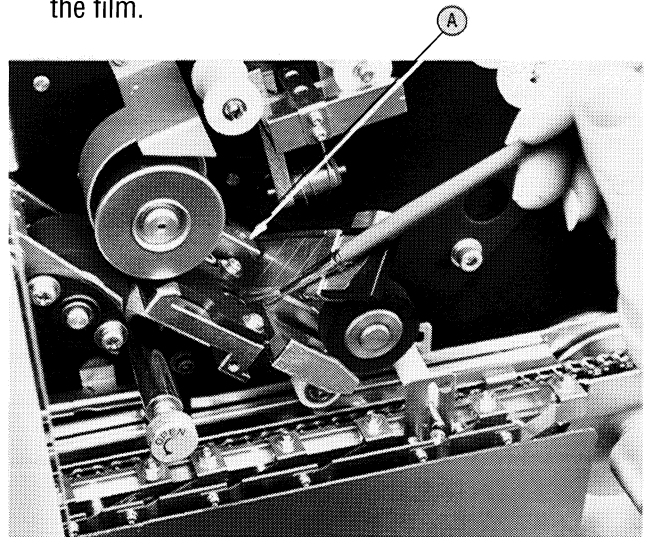

Figure 6-6
To oil the cutter holder pin (refer to Figure 6-6, Point A):
3. While the tray is removed, remove any resin dust from the rollers and blade assembly by carefully brushing with a small soft brush (such as an artist's brush) (Figure 6-6). If resin dust has accumulated and cannot be brushed away, moisten the brush with xylene and repeat. Unthread the film so the plate to the left of the blade assembly can also be cleaned. Be sure the rollers are dry before reloading the film.